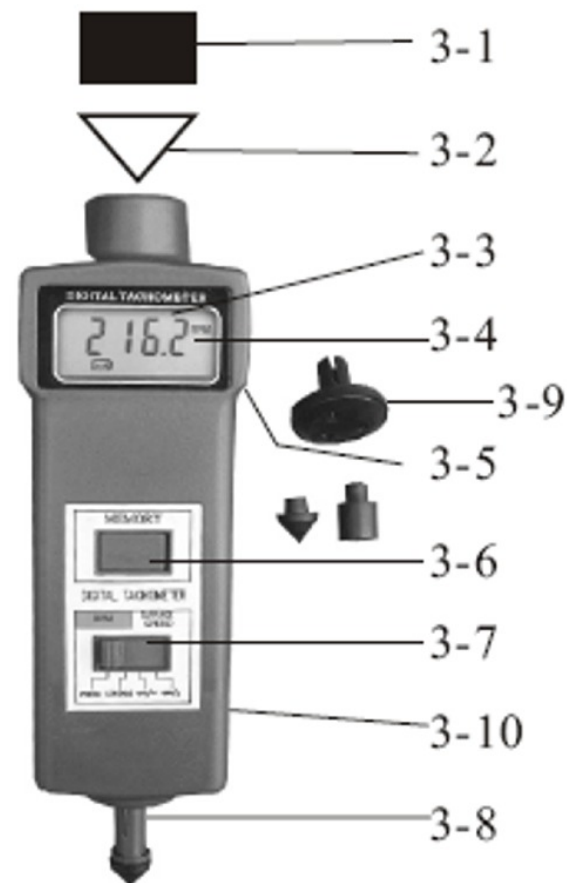

Fig. 1
- 8-2 To loose the screw of the battery cover (Fig.1, 3-10) away from the instrument and remove the batteries.